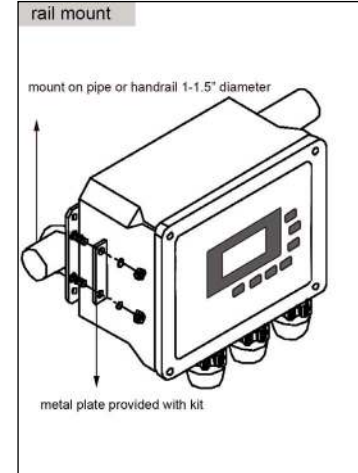

Figure 3.3
4. Place the u-bolts around the rail securing the 5200A to the pipe or rail by feeding through the pre-drilled holes on the mounting brackets as shown in figure 3.3.